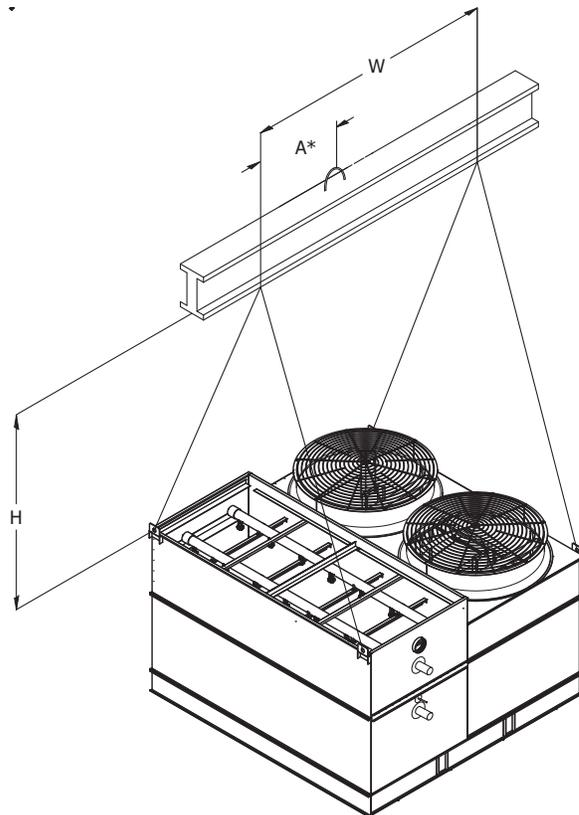

Figure 9 – S Model Coil / Fan Section – 12' and 18' Long
Four lifting ears are provided in the upper corners of the coil / fan sections for lifting. Sections 18' or longer will have two additional lifting ears in the middle of the section. (See Figures 9, 10, and 11)
CAUTION: USE ALL LIFTING EARS PROVIDED ON THE SECTION. A SPREADER BEAM MUST BE USED FOR LIFTING THE TOP SECTION(S) AS SHOWN IN FIGURES 9, 10, AND 11!